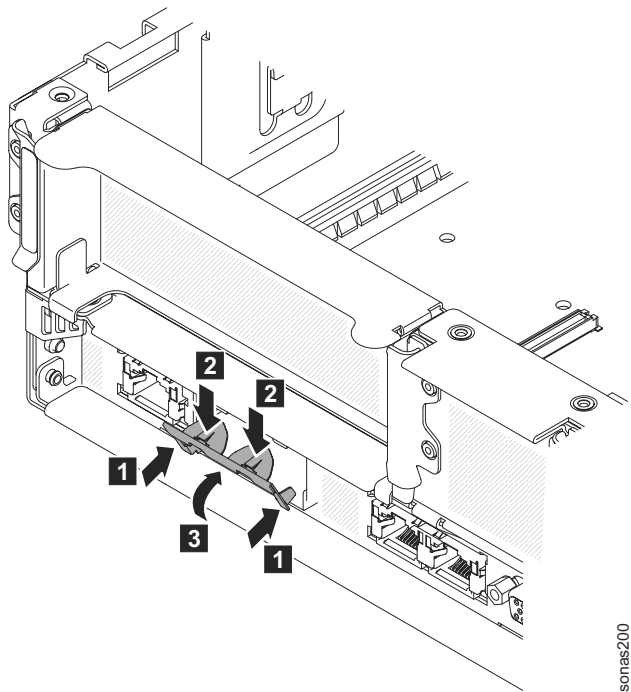

Figure 15. Location of the port openings on the chassis
7. Insert the bottom tabs of the metal clip into the port openings from outside the chassis. See Figure 15.